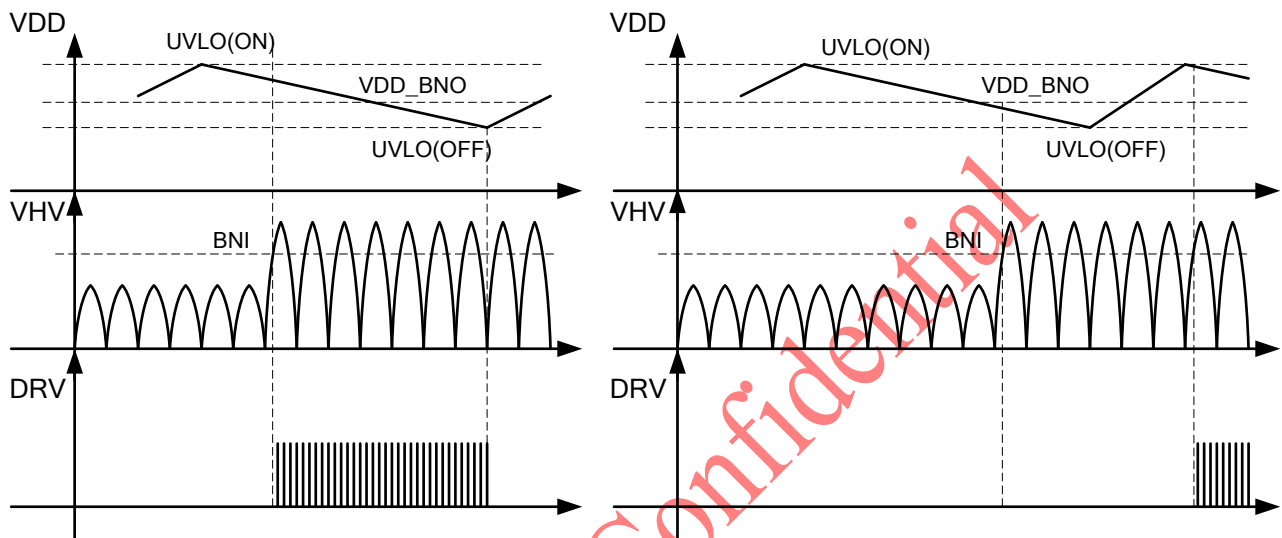

Fig. 5.2
The WT7160 features brown in/out protection on HV pin. When HV pin voltage (VHV) goes above brown-in threshold (BNI) and $VDD > VDD_BNO$, the controller can start immediately. Otherwise, the controller actually starts the next time VDD reaches UVLO (ON), as shown in Fig. 5.2. When VHV goes below brown out threshold (BNO) for more than a de-bounce time, the controller will stop switching.